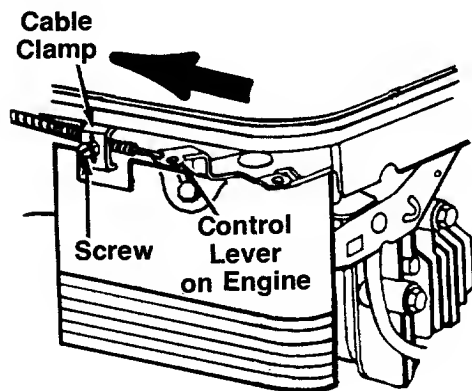

FIGURE 18.
1. Remove the screw shown in figure 18. Remove the cable clamp from the cable.